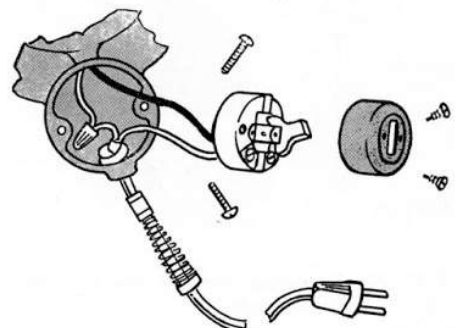

FIG. 26—Wiring diagram of foot switch
3. The foot switch and wiring, shown in Figure 26, is mounted on the motor casing.